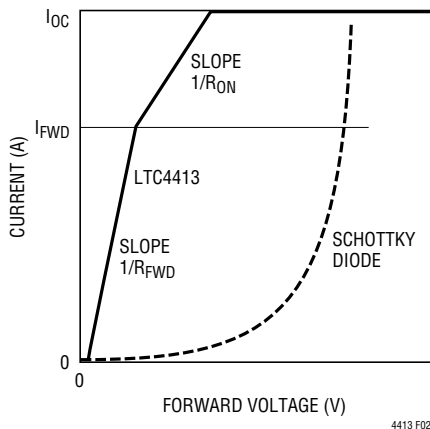

Figure 2
The LTC4413 is described with the aid of the Block Diagram (Figure 1). Operation begins when the power source at  $V_{INA}$  or  $V_{INB}$  rises above the undervoltage lockout (UVLO) voltage of 2.4V and either of the ENBA or ENBB control pins is low. If only the voltage at the  $V_{INA}$  pin is present, the power source to the LTC4413 ( $V_{DD}$ ) will be supplied from the  $V_{INA}$  pin. The amplifier (A) pulls a current proportional to the difference between  $V_{INA}$  and  $V_{OUTA}$  from the gate ( $V_{GATEA}$ ) of the internal PFET (PA), driving this gate voltage below  $V_{INA}$ . This turns on PA. As  $V_{OUTA}$  is pulled up to a forward voltage drop ( $V_{FWD}$ ) of 20mV below  $V_{INA}$ , the LTC4413 regulates  $V_{GATEA}$  to maintain the small forward voltage drop. The system is now in forward regulation and the load at  $V_{OUTA}$  is powered from the supply at  $V_{INA}$ . As the load current varies,  $V_{GATEA}$  is controlled to maintain  $V_{FWD}$  until the load current exceeds the transistor's (PA) ability to deliver the current as  $V_{GATEA}$  approaches GND. At this point the PFET behaves as a fixed resistor with resistance  $R_{ON}$ , whereby the forward voltage increases slightly with increased load current. As the magnitude of  $I_{OUT}$  increases further (such that  $I_{LOAD} > I_{OC}$ ), the LTC4413 fixes the load current to the constant value  $I_{OC}$  to protect the device. The characteristics for parameters  $R_{FWD}$ ,  $R_{ON}$ ,  $V_{FWD}$  and  $I_{OC}$  are specified with the aid of Figure 2, illustrating the LTC4413 forward voltage drop versus that of a Schottky diode.